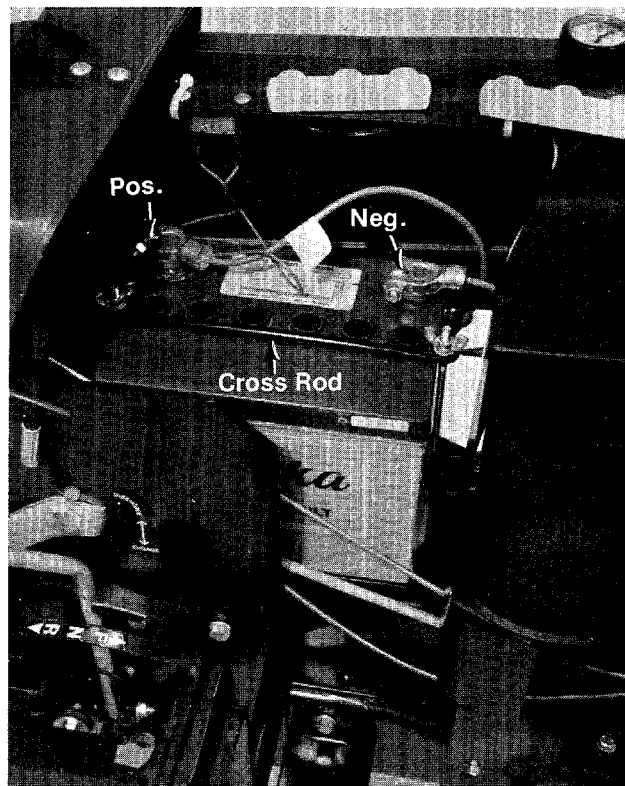

FIGURE 1.
2. Attach the positive battery cable (which has two wires) to the positive battery terminal. (See figure 1.)
5. Place the battery hold down assembly over the battery and slide the battery into place. (See figure 1.)